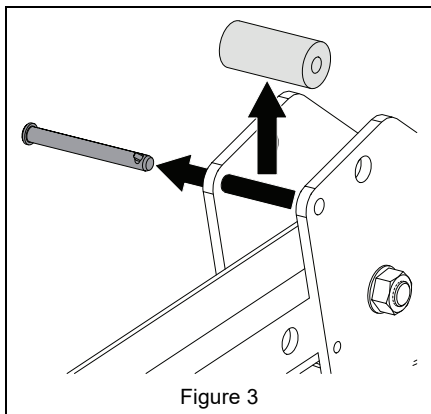

Figure 3
5. Remove and retain one rubber bushing and one pin from each side of ROPS. See Figure 3.